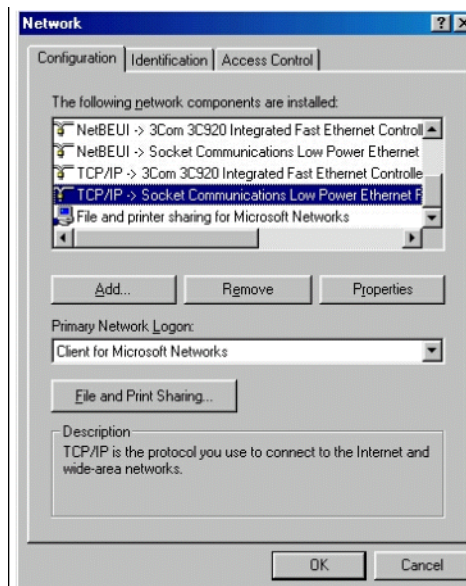

Figure B.1 Network
1. Right-click the *Network* icon on the desktop and select *Properties* for all supported Windows systems and the *Network* window appears (Figure B.1).